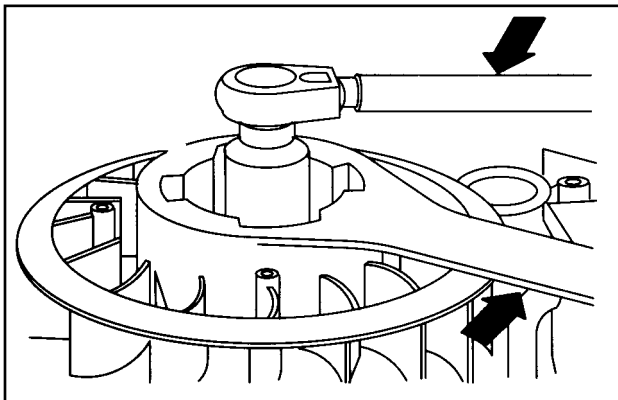

Fig. 8-Torquing Flywheel Nut
5. Assemble flywheel to retainer, Fig. 8.